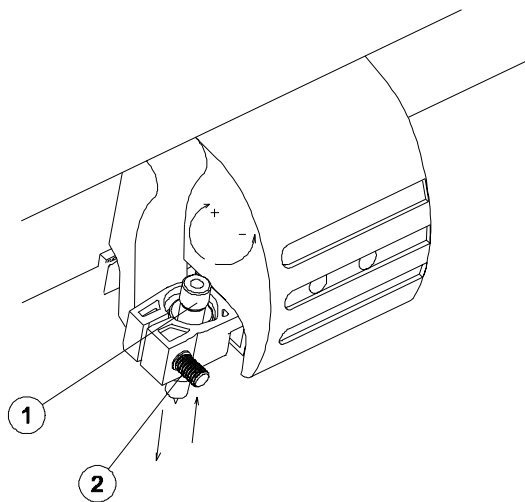

FIGURE 1-6
1. Loosen the clamp screw and swinging the clamp arm back (refer to Fig 1-6). Remove the knife holder or pouncing tool.
1. Loosen the clamp screw and swing the clamp arm back. Remove the knife holder or pen (refer to Fig 1-6).